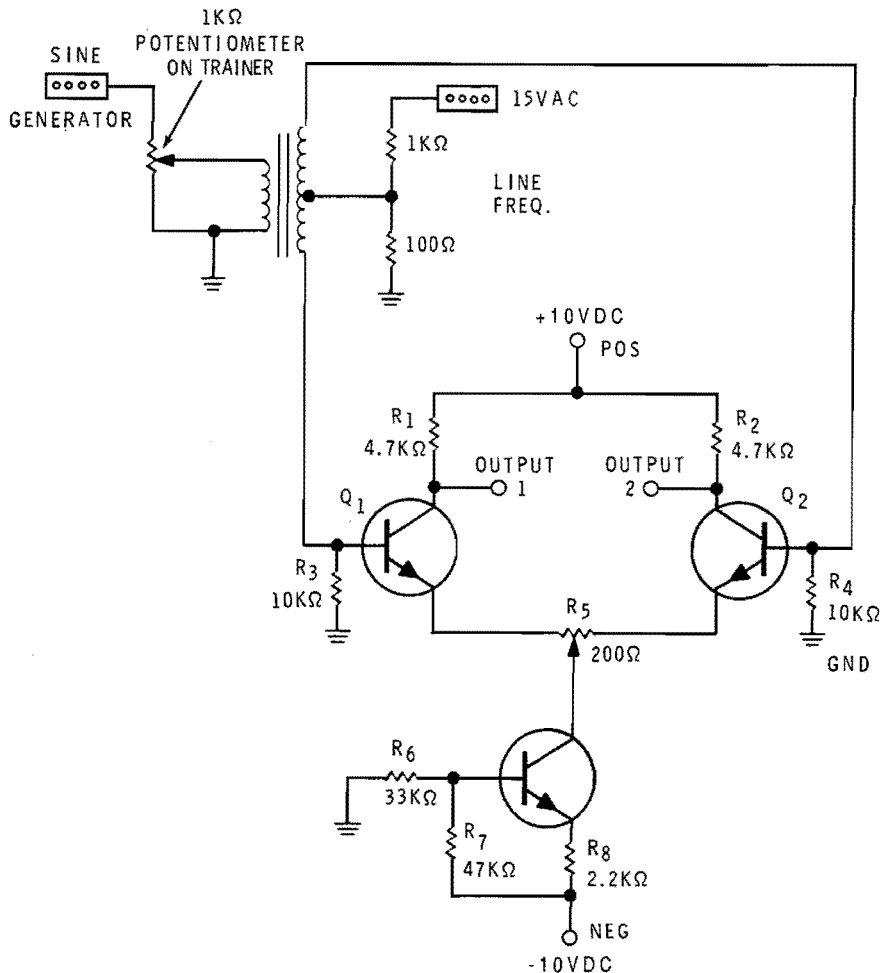

Figure 3-20
30. Turn off the Trainer and modify the circuit as shown in Figure 3-20. Notice that this introduces a relatively high 60 hertz signal at the center tap of the transformer.